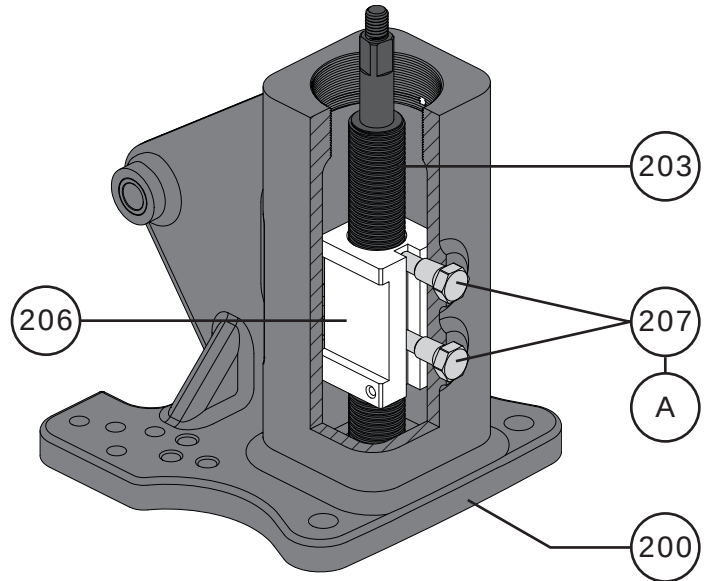

Figure 63 Guide Bolt Installation
- 7 Lubricate the threads of the guide bolts (Key 207) with Permatex® Nickel Anti-Seize (Key A) and thread them into the handwheel body (Key 200) so that they position themselves into the groove on top of the operating screw. Refer to Figure 63.